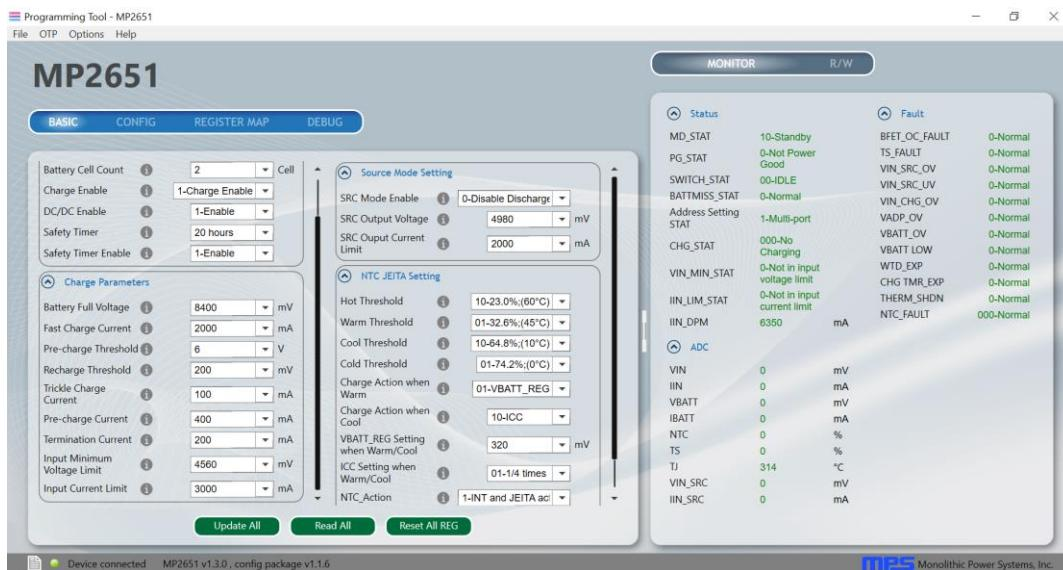

Figure 7: Connected Status Shows Successful Connection
- If the connection is successful, “Device connected” will be shown at the bottom left of the screen (see Figure 7).